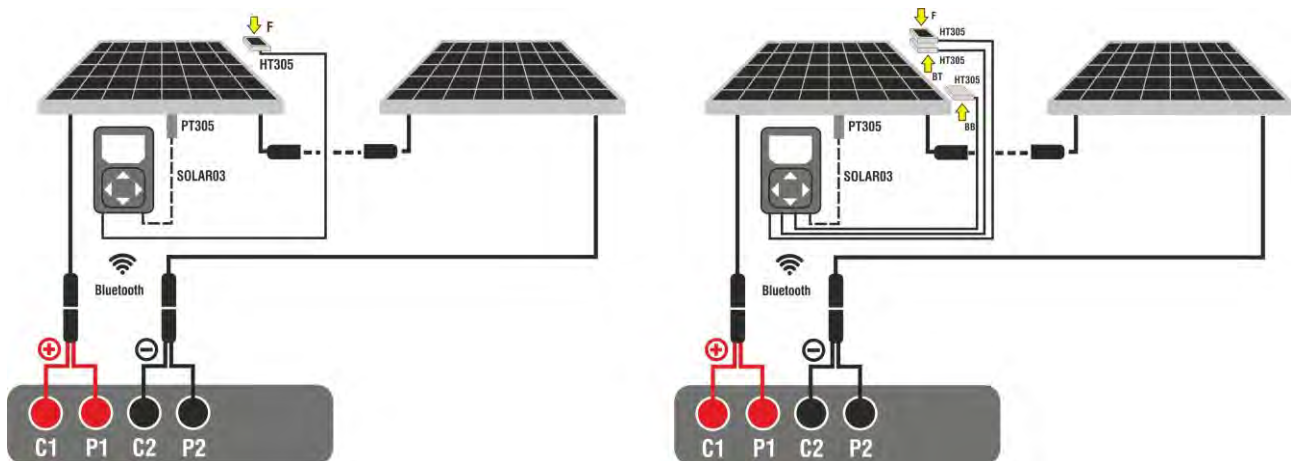

Fig. 52: Connection with remote unit SOLAR03 on Monofacial and Bifacial modules
3. Connect the instrument and the SOLAR03 remote unit to the module/string being tested as shown in Fig. 52. In detail:
- **In case of Bifacial modules**→, position the **three HT305 reference cells** on the front surface of module (**F**), on the top back section (**B T=BackTop**) and on the bottom back section (**BB=BackBottom**) of the module. Connect the front reference cell (F) to input "INP1", BT reference cell to input "INP2", BB reference cell to input "INP3" and **possibly** the temperature probe **PT305** to input "INP4" of the remote unit.
14. Bring the remote unit close to the modules and connect the irradiance/temperature probes as shown in Fig. 52. **As the recording has already been activated on the SOLAR03 remote control unit, it is no longer necessary to maintain the Bluetooth connection.** Maintaining the connection will only allow to immediately obtain the outcome of the test without waiting for the measuring campaign to be completed.